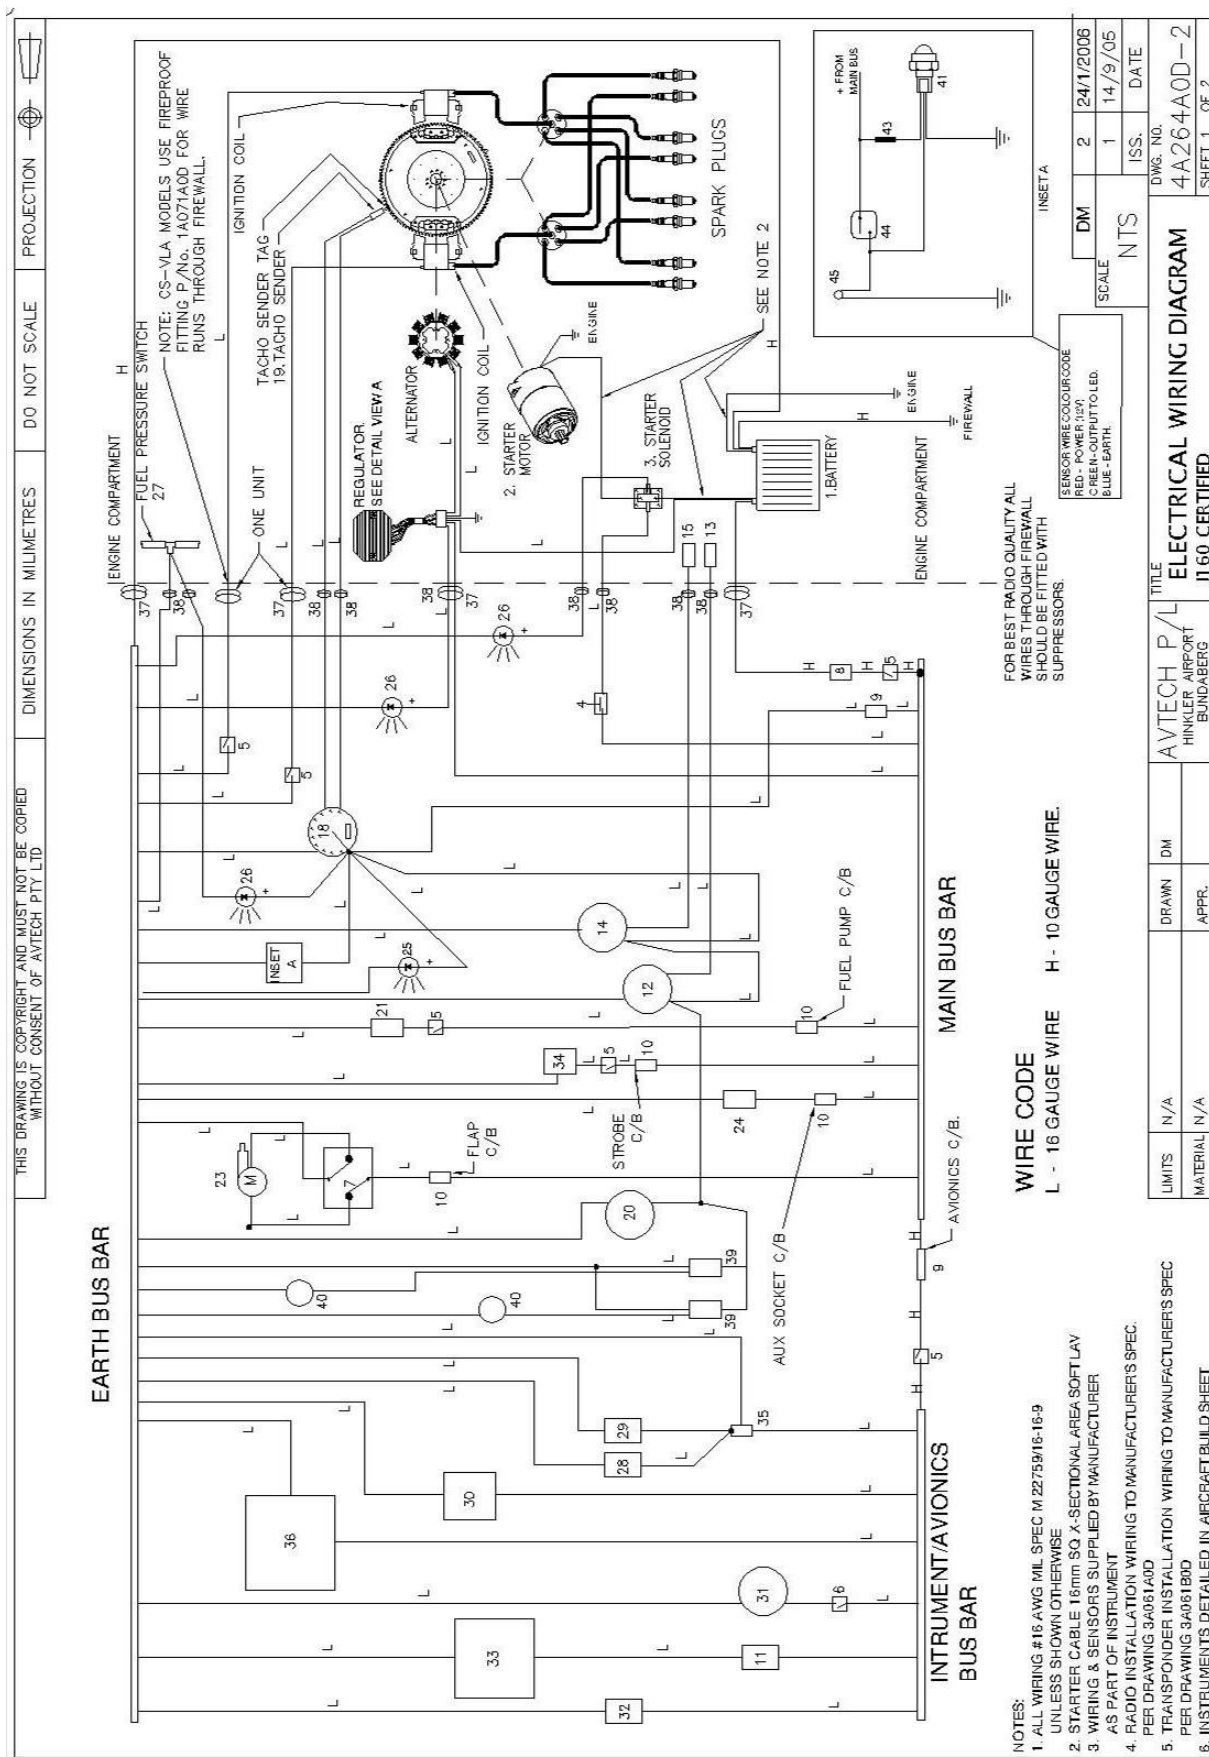

Figure 26. Wiring Diagram
- The ignition is turned OFF by grounding the coils via the ignition switches. This is the reverse of most electrical systems: when the ignition switch is in the open (not connected) position the coil is LIVE and will fire. Wiring details are shown in Figure 26.
- Wiring details are shown in Figure 26.
- General wiring information for the Tachometer is given in the Wiring Diagram, Figure 26. Detailed instructions on it's installation are supplied by the instrument manufacturer.
Suppressor for each wire. The wiring diagram in Figure 26 shows suppressors in schematic form. These suppressors are readily available at local electronics stores.